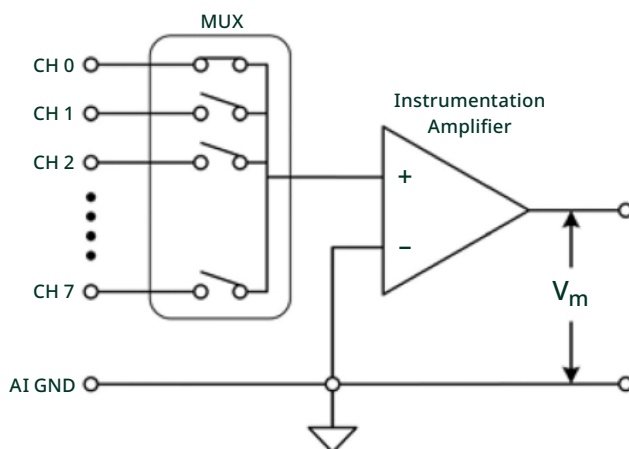

Figure 39. A GRSE or RSE system's common reference channel is connected to the instrument ground.
Single-ended configurations are commonly the default configuration for instruments. They differ from differential configurations because only one analog input channel is required for the measurement. All channels on the instrument use the negative input to the instrumentation amplifier as the common reference, shown in Figure 39. Because single-ended configurations use only one input, they can take twice the number of measurements compared to a differential configuration system with the same number of physical channels. On the other hand, this leaves single-ended measurements susceptible to ground loops, which can decrease the accuracy of the measurements.
- **Ground RSE (GRSE) or RSE systems** have the common reference channel connected to the instrument ground. In the example RSE system shown in Figure 39, the instrument ground channel is labeled AI GND.